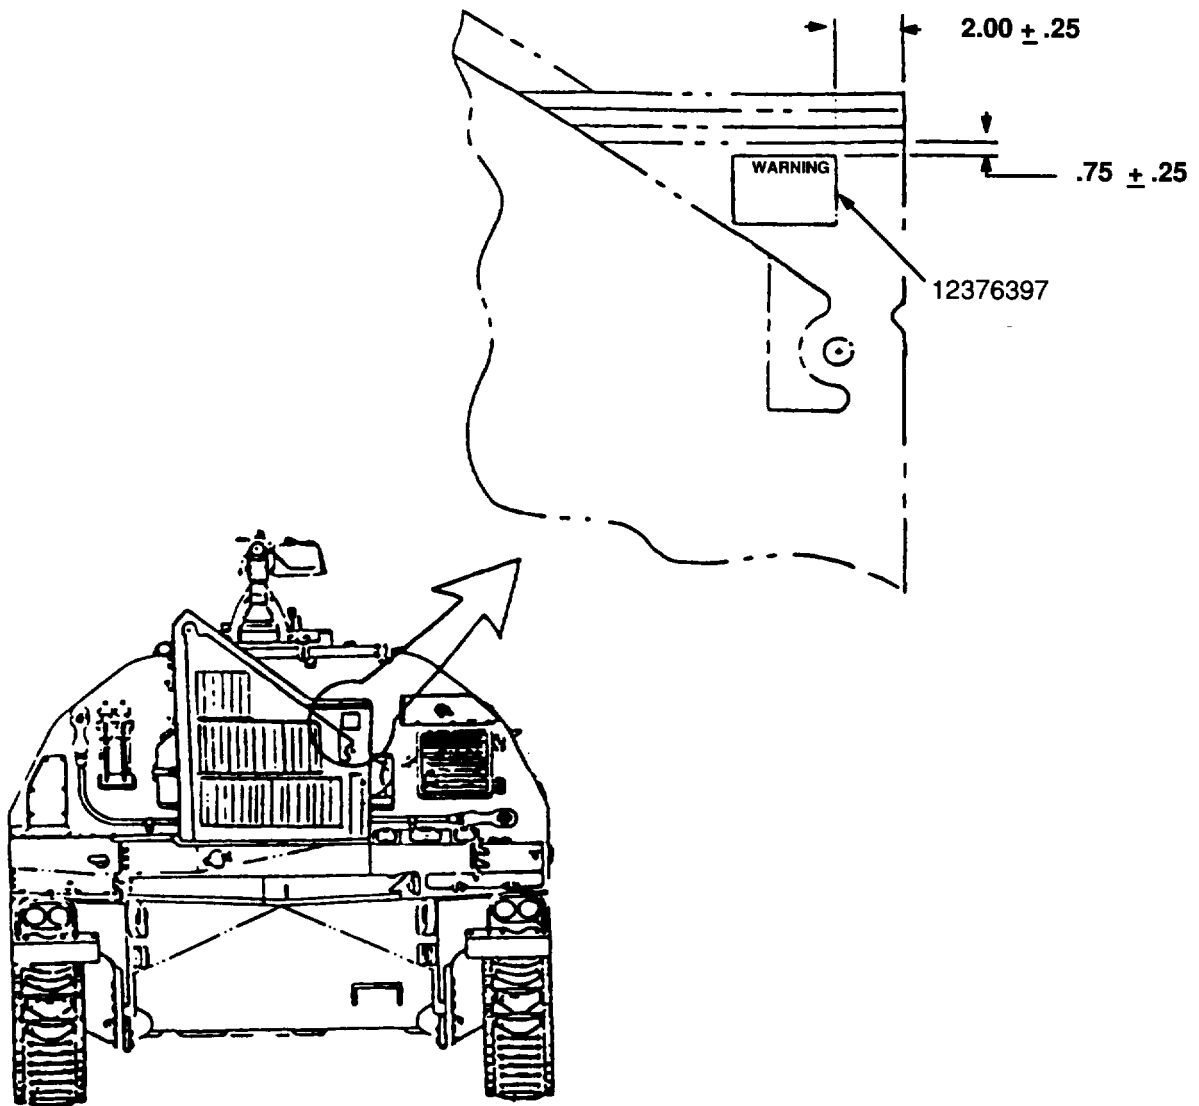

Figure 6
21. Clean the surface area at the top right (as viewed from the front) of the intake grille with detergent (see Figure 6).
22. Remove the protective backing from label 12376397\* and position as shown in Figure 6.